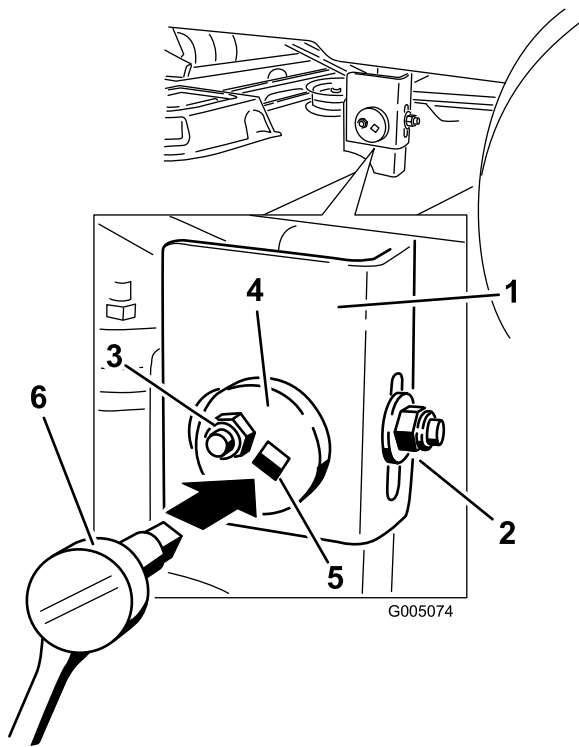

Figure 37
- Move the left side of the machine. Loosen, but do not remove, the rear locking nut on the hanger bracket (Figure 37).
8. Loosen the side-locking nut on the hanger bracket just enough so that you can adjust the eccentric plate (Figure 37).
9. Stop the deck at the adjusted position and tighten the side-locking nut on the hanger bracket to hold the new position (Figure 37).